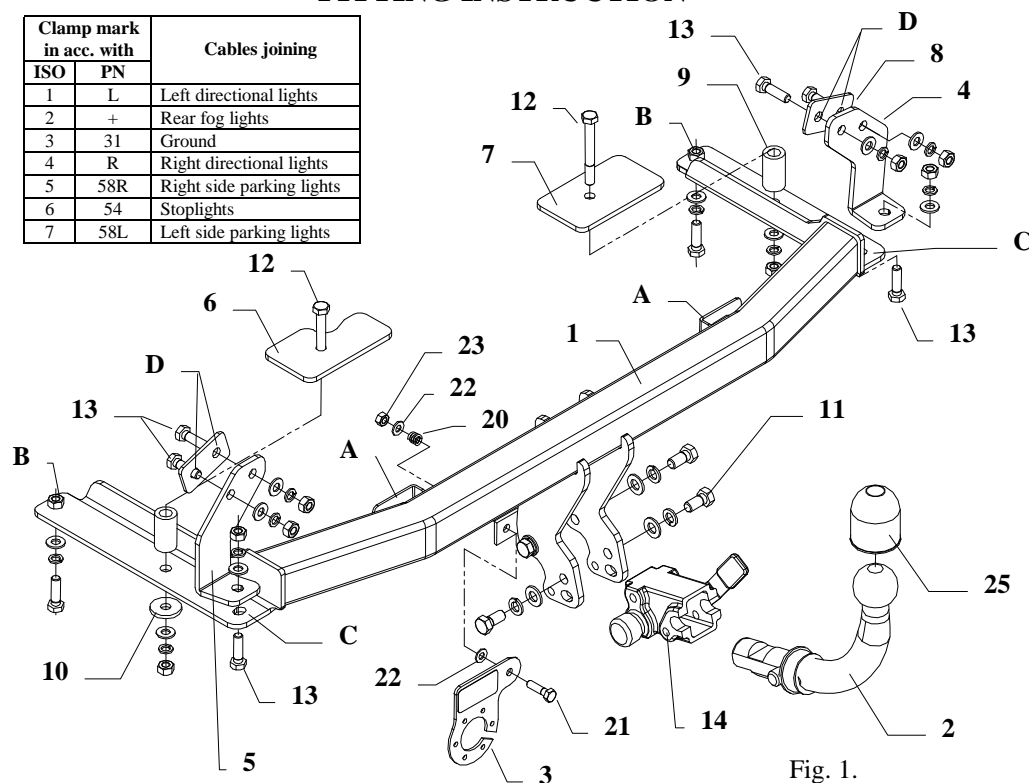

Fig. 1.
6. Position the element (pos. 5) on the left side and element (pos. 4) on the right side and fix it together with element (pos. 8) through the holes (pos. C and D) see the fig.1
8. Fix body of the automat (pos. 14) using bolts M12x25mm (pos. 11) from accessories. Place tow-ball (pos. 2) according to supplied instruction.
9. Fix the socket plate (pos. 3) as shown on the drawing.